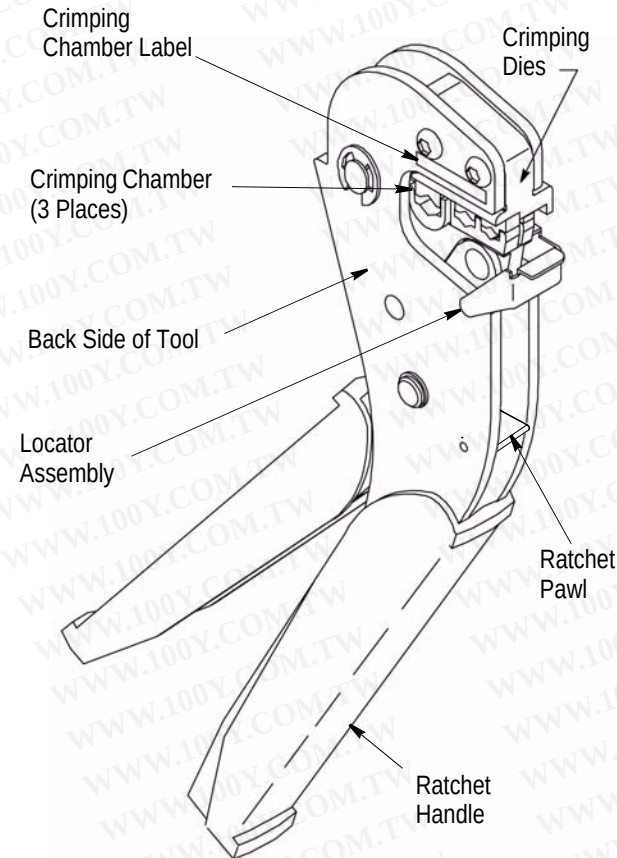

Figure 1
TETRA-CRIMP Hand Crimping Tool 59824-1 (shown in Figure 1) is designed to crimp the terminals and splices listed in Figure 2 onto stranded wire sizes 22 through 10 AWG. Refer to Catalog 82042 for product part numbers. Read these instructions thoroughly before using the hand tool.
Each hand tool features two crimping dies, a spring-loaded locator assembly, and a ratchet handle with a ratchet pawl. See Figure 1. When closed, the dies form three crimping chambers each labeled by color on the BACK side of the tool. The color indicates the wire size and must match the insulation color of the terminal or splice: yellow (12-10), blue (16-14), red (22-16), black heavy duty (16-14 HD), and green (20-16 HD).
1. Squeeze the tool handles together, and count the number of ratchet stops. Five stops, including the release position, should be indicated by the movement of the ratchet pawl and the clicking sound associated with its movement. Refer to Figure 1.